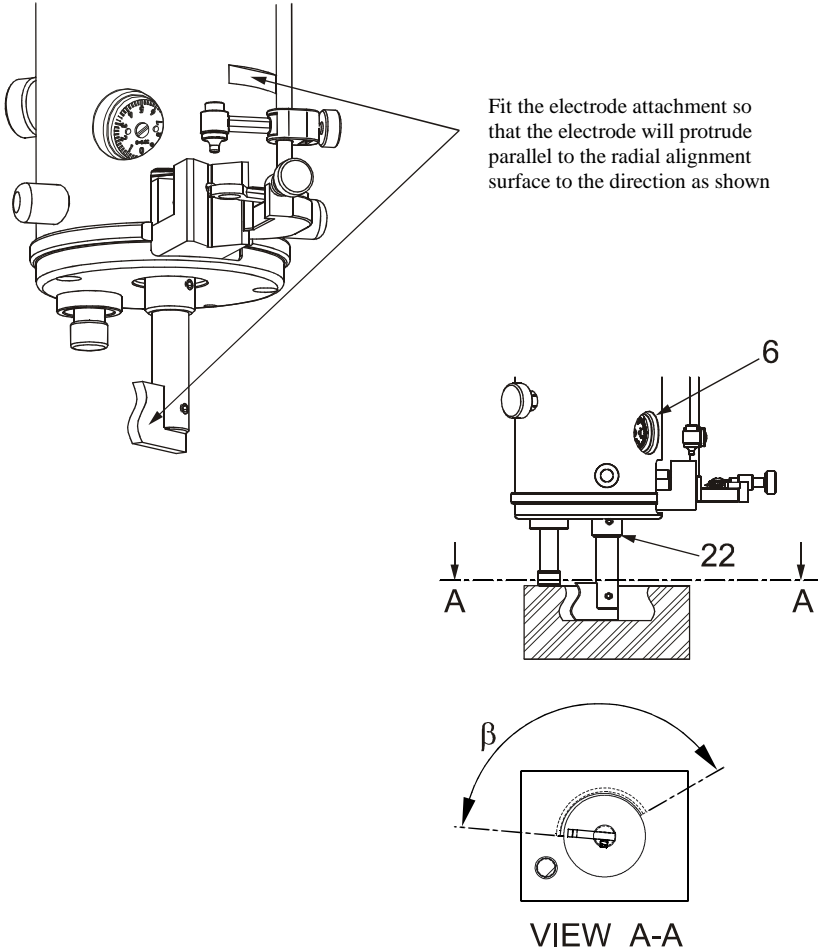

Figure 8. Forming Cavities With A Circular Symmetry Using Flat Electrode With A Profile
The electrode is attached to electrode mounting shaft (18) using the electrode to shaft attachment (22) or similar accessory. Attachment to this point will cause the electrode to move from the centre in accordance with the adjustment of the scale (6) and then to rotate about itself. A cavity having circular symmetry will be obtained in accordance with the shape of the profile. See Figure 8.
- A. Install electrode to shaft attachment (22) on electrode mounting shaft (18) and turn it so that the slot for the electrode will be parallel to the radial alignment surface (see Figure 8).
- C. Fit the electrode into the slot of the electrode to shaft attachment (22).